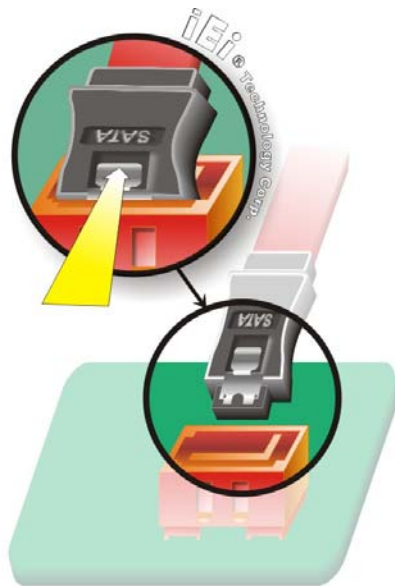

Figure 5-10: SATA Drive Cable Connection
Step 2: Insert the cable connector. Press the clip on the connector at the end of the SATA cable and insert the cable connector into the onboard SATA drive connector. See **Figure 5-10**.